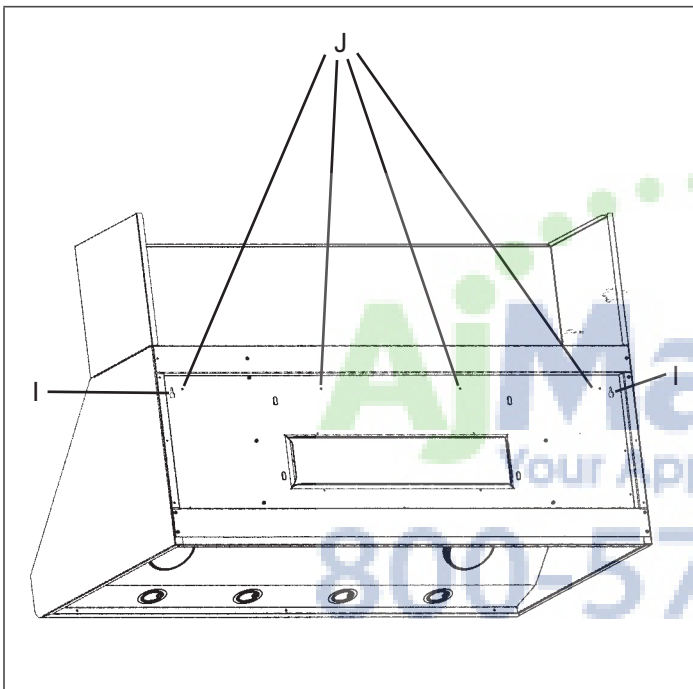

Figure 12: Location of Screw Keyholes
14. Using two people to lift, rest the hood on the screws in the wood bracket. Use the keyholes labeled "I" in Figure 12. Make sure the wood bracket fits into the recess on the back of the hood.
16. From inside the hood, drive 5/8" (16mm) screws through holes in hood into wooden bracket. See holes labeled "J" in Figure 12.